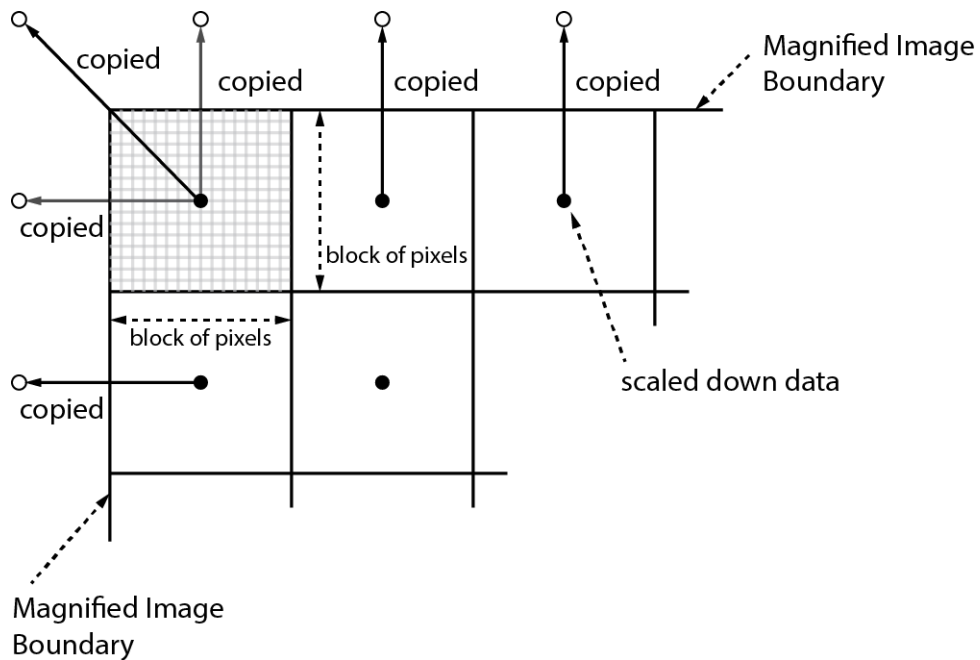

Figure 9.8 Bilinear Interpolated Magnification
4. Execute the **Flat Field Data Save** parameter to save the generated Flat Field data into the non-volatile memory. When the scaled-down Flat Field data are used for correction, they are expanded and applied with a Bilinear Interpolation as shown in the Figure 9.8.